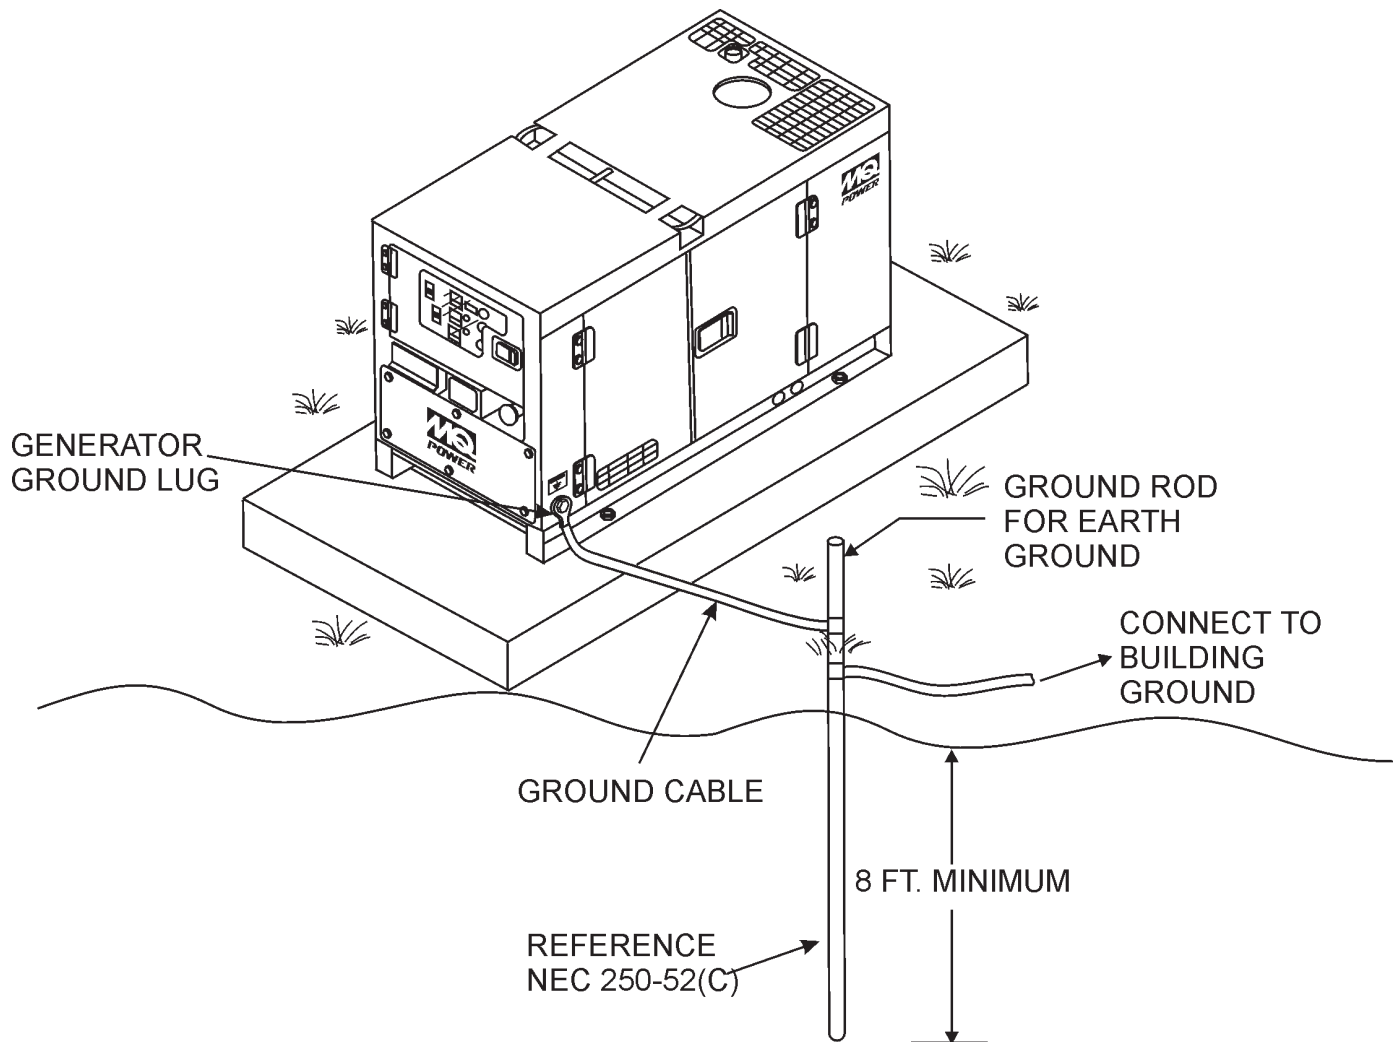

Figure 12. Typical Generator Grounding Application
2. When grounding the generator (Figure 12) connect the ground cable between the lock washer and the nut on the generator and tighten the nut fully. Connect the other end of the ground cable to earth ground.